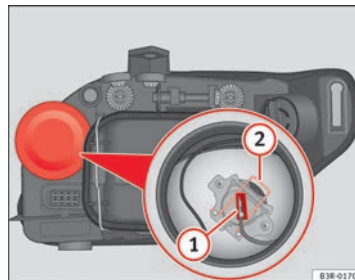

Fig. 210 Main beam headlights
- Remove connector ⇒ Fig. 210 (1) from the bulb.
- Press the spring ⇒ Fig. 210 (2) inwards and to the right.